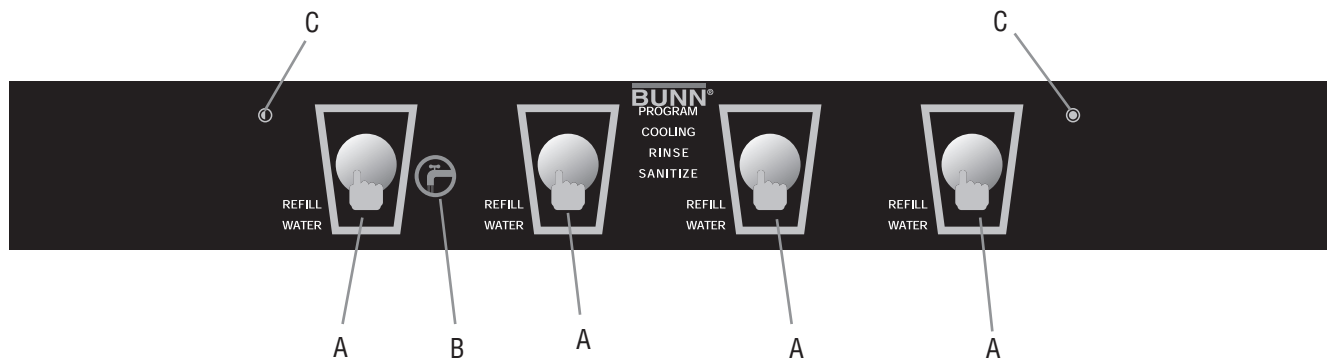
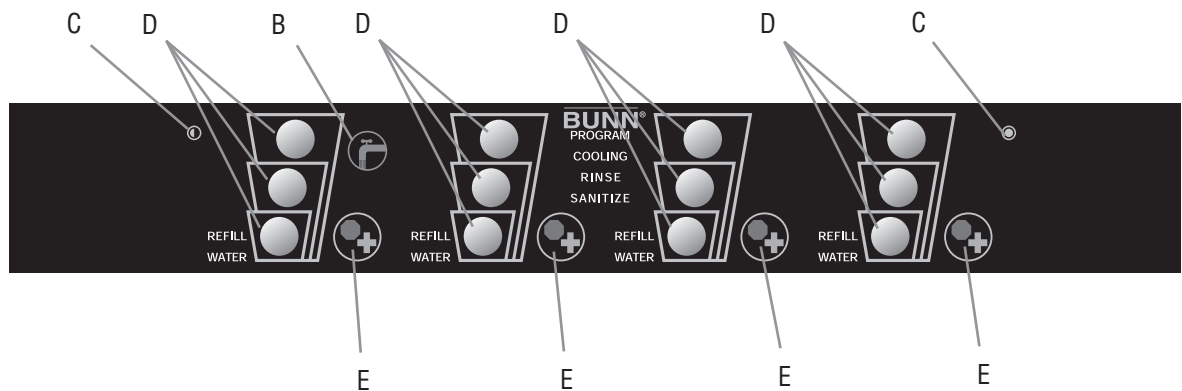

FIG 4 Press and Hold Models
FIG 5 Portion Control Models
5. For late models with the water inlet valve, simultaneously press the two hidden switches (C, Figs 4 & 5) to enter the program mode. This activates the water inlet valve at the rear of the dispenser and allows water to flow to the water bath valve at the front of the dispenser.
Press and hold the "Product Dispense Switch" Fig 4, until concentrate dispenses from the dispense nozzle.
Press and hold the "+/STOP Switch" Fig 5, until concentrate dispenses from the dispense nozzle.
Press and Hold Models (Refer to Fig 4)
Portion Control Models (Refer to Fig 5)
5. Press and release the appropriate "Product Dispense Switch" Fig 4. This will initiate a timed rinse cycle. Portion control users can press any of the 3 "Product Dispense Switches" Fig 5, to initiate a timed rinse cycle.
5. Press and hold the "Sanitize Switch" Fig 4, located on the front left portion of the base, for 5 seconds. The "SANITIZE" indicator on the front panel will begin to flash and the beeper will sound twice indicating that you have entered the sanitize mode.